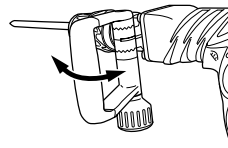
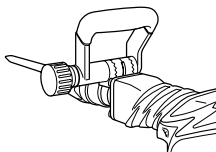
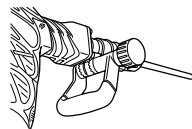

Fig. 6
Fig. 7
Fig. 8
- (2) Adjust it to a position where vertical (up-and-down) operation can be facilitated as illustrated in Fig. 6, Fig. 7, and Fig. 8.
- (3) Turn the grip in the direction of (B) and fix the handle.